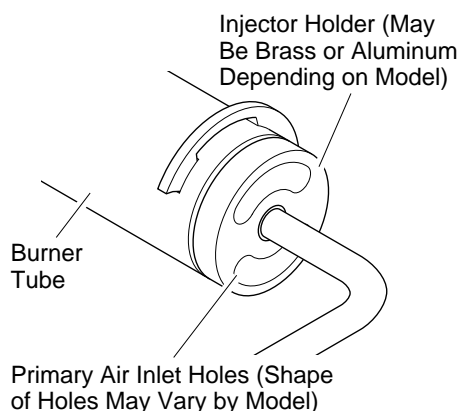

Figure 26 - Injector Holder On Outlet Burner Tube
2. Inspect burner, pilot, and primary air inlet holes on injector holder for dust and dirt (see Figure 26).